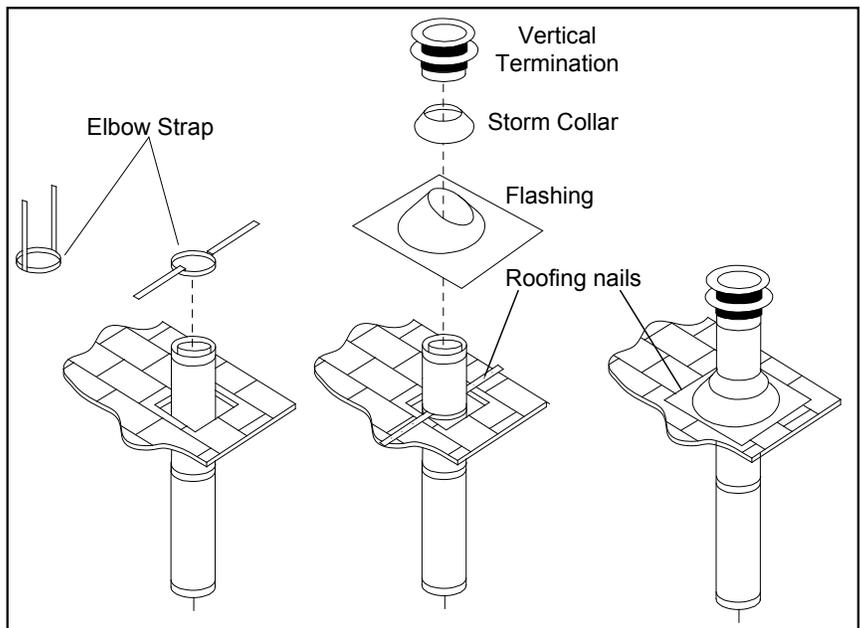

Figure 28. Vertical Vent Termination
- STEP 6.** Once the pipe sections have been joined, and run up through the hole in the roof, slip an elbow strap over the exposed sections, bend the support straps outwards, and push the elbow strap down to the roof level, as shown in Figure 28. Tighten the clamp around the pipe section. Use a level to make sure the pipe is truly vertical. With roofing nails, secure the support straps to the roof. Seal the nails holes heads with non-hardening mastic. Trim the excess length of the support straps that extend out beyond the edge of the flashing.
- STEP 9.** Slip the storm collar over the pipe, and push it down to the top of the roof flashing as shown in Figure 28. Use the non-hardening sealant around the joint between the pipe and the storm collar.